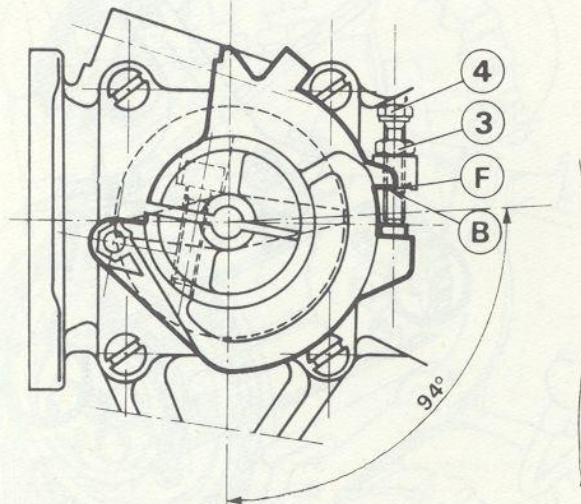

Fig 3.42 Maximum throttle opening (KF6) - Part 1 (Sec 40)
[For caption see Fig 3.42]
1 Maximum throttle opening is controlled by a stop screw (4), (Figs. 3.42 and 3.43) and this should be set to bring the reference face (b) into line with the lower face (f) of the boss on the housing.